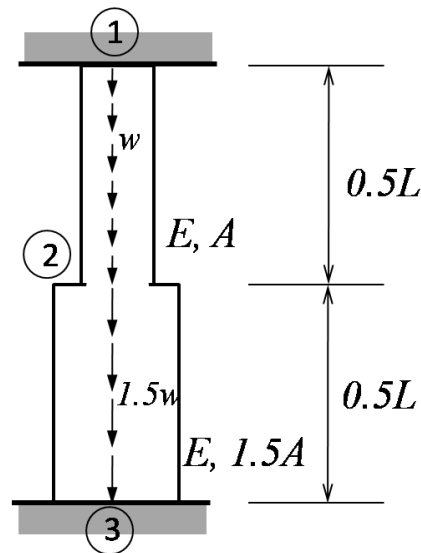

Figure 5
3. **Figure 5** shows a stepped bar which is fixed at both ends. Length of both portions 1-2 and 2-3 is $0.5L$. Elastic modulus of the bar is E and cross-sectional area of portion 1-2 and 2-3 is A and $1.5A$, respectively. The bar is subjected to a uniformly distributed load w and $1.5w$ per unit length for portion 1-2 and 2-3, respectively. Using piece-wise Rayleigh-Ritz method, obtain the axial displacement at point 2. Divide the bar into two portions 1-2 and 2-3 and assume linear displacement field for each portion.